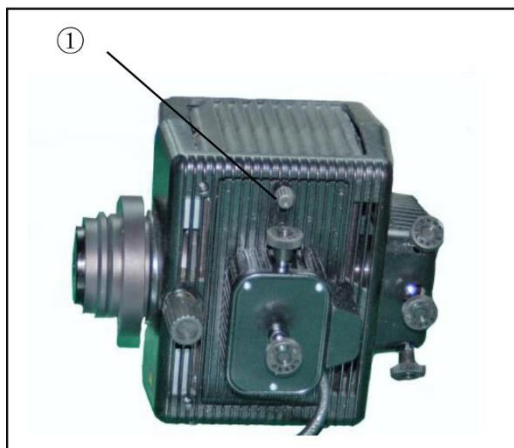
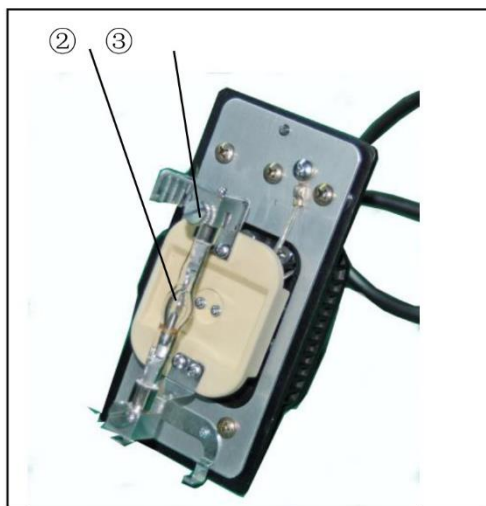

Figure 10
Figure 11
- ❖ Do cover all the unused holes with turret dust caps ③, to prevent the dust and contamination entering inside.
2.2.7. Mounting the Mercury Burner (Figure 10, Figure 11)